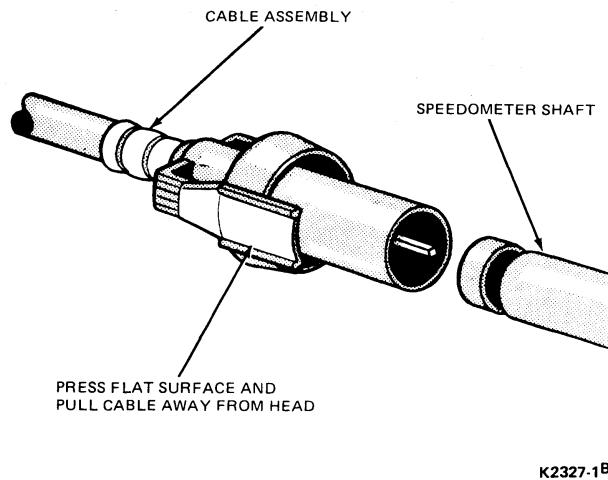

FIG. 4 Speedometer Cable Quick-Connect
1. Disconnect the speedometer cable from the speedometer (Fig. 4).
11. Connect the speedometer cable to the speedometer head (Fig. 4).
1. Disengage the upper speedometer cable from the speedometer (Fig. 4).
4. Secure the speedometer cable to the speedometer (Fig. 4).
1. Disconnect the speedometer cable (core and casing assembly) from the speedometer head (Fig. 4).
7. Connect the cable assembly to the speedometer, being sure to eliminate any kinks in the housing and shaft (Fig. 4). Check the operation of the speedometer.